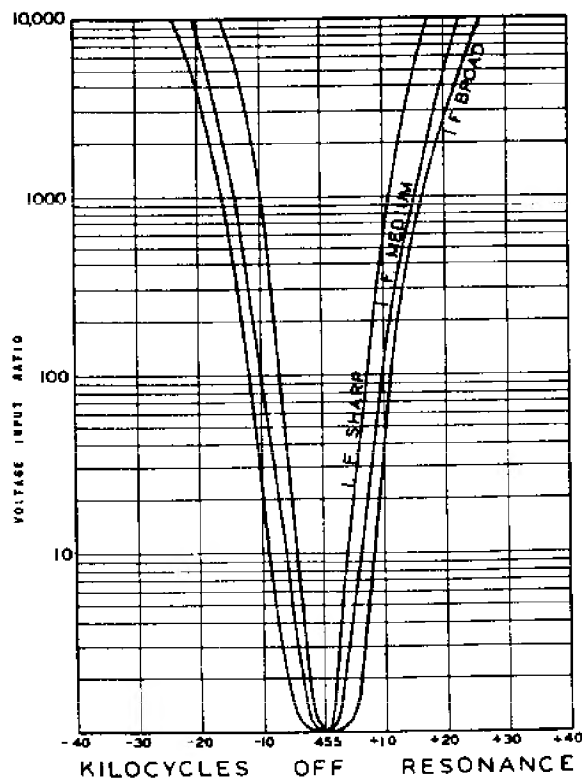

Figure 14. Selectivity Curves
(7) SELECTIVITY Control. This control determines the sharpness of the response. Six degrees of selectivity are provided, ranging from CRYSTAL SHARP for c-w code reception under difficult receiving conditions to NORMAL BROAD response for high fidelity reception. (See Fig. 14 for i-f selectivity curves.)